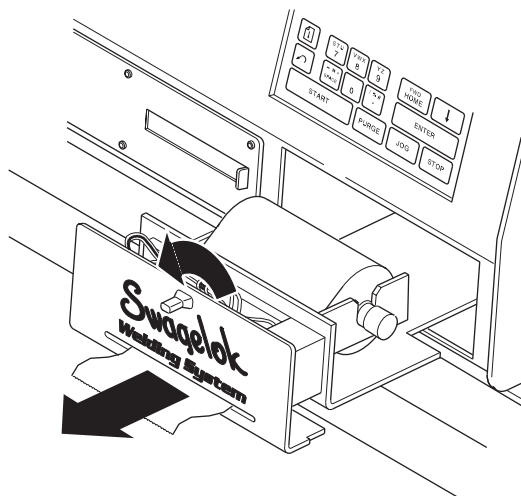

Figure 76 Opening the Data Recording Printer Drawer
2. Turn the latch counter-clockwise to release the data recording printer body from the case. Extend the data recording printer body from the power supply by pulling it forward. See Figure 76.